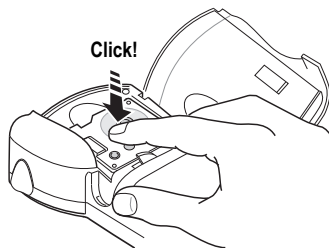

Figure 5
4. Insert the cassette with the tape and ribbon positioned between the print head and pinch roller. See Figure 5.